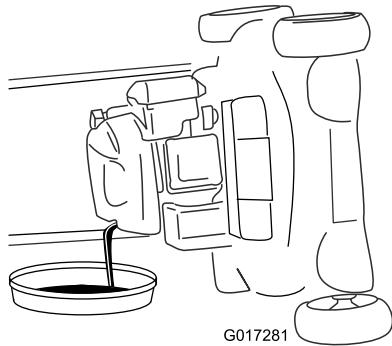

Figure 31
- Remove the dipstick and drain the used oil into the oil-drain pan (Figure 31).